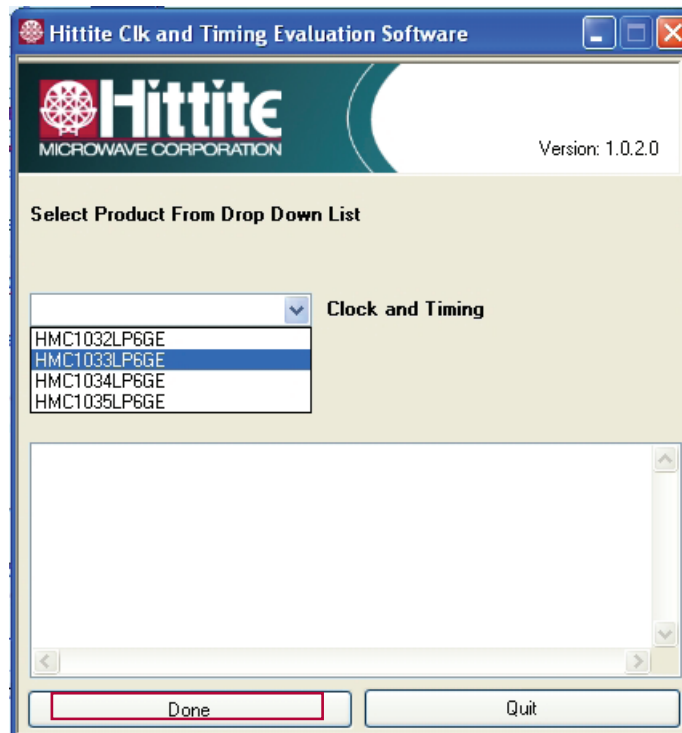

Figure 2. Hittite PLL Product Selection Window
1. Launch the “Hittite Clocks & Timing ICs Eval Software” file from Start, All Program Files menu on your PC, or from your Desktop. Hittite Clocks & Timing ICs Evaluation Software Selection Window shown in Figure 2 will appear. From the drop down list, select the part under test.